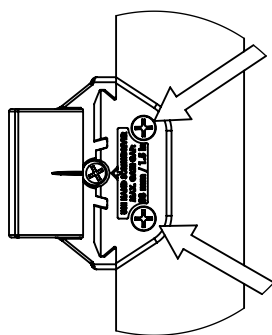

FIG. 9
3. Secure Keeper Assembly to Gate in this position using (2) Flat Head screws as shown in (Fig. 9).